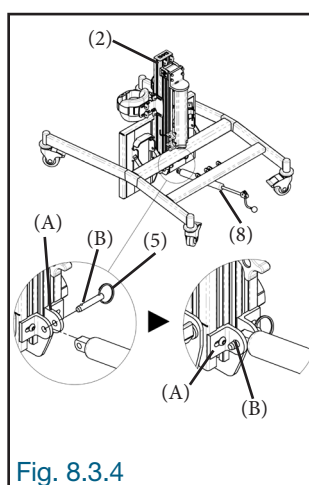

Fig. 8.3.4
8.3.4 Attach the cylinder (8) to the support (A) of the frame (2) by inserting the quick-release pin (5) (Fig. 8.3.4). Make sure that the lock (B) on the pin is completely disengaged on the other side of the support (A) so that it is securely locked.